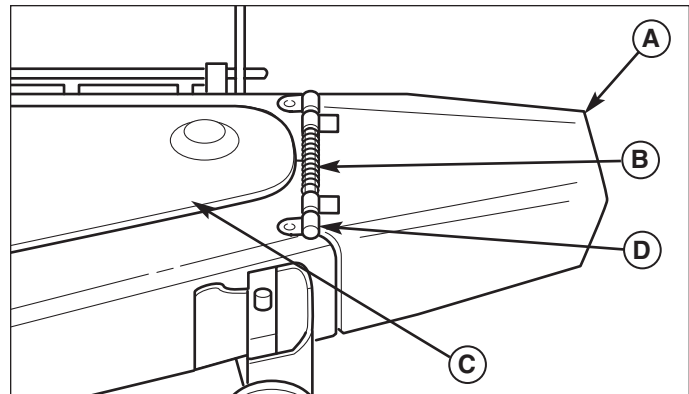

Figure 1. Deflector, Stone Guard, and Cover
2. Remove the deflector (A, Figure 1) by removing carriage bolts, lockwashers, and nuts securing the spring (B) and rod (D).
3. Remove the rod (D) and spring (B) from the deflector. These parts will not be used. The deflector will be reinstalled.
4. Remove the left-hand belt cover (C) by removing self tapping screws. Discard the belt cover, retain the screws.